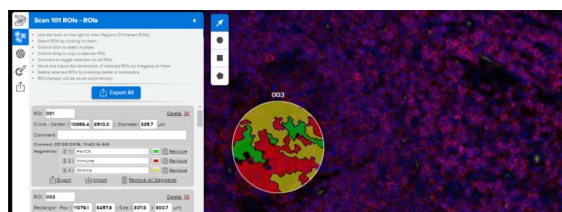

Figure 43: Scan Workspace ROIs List with Export Image link
1. **Open the ROIs List** (see Figure 43).